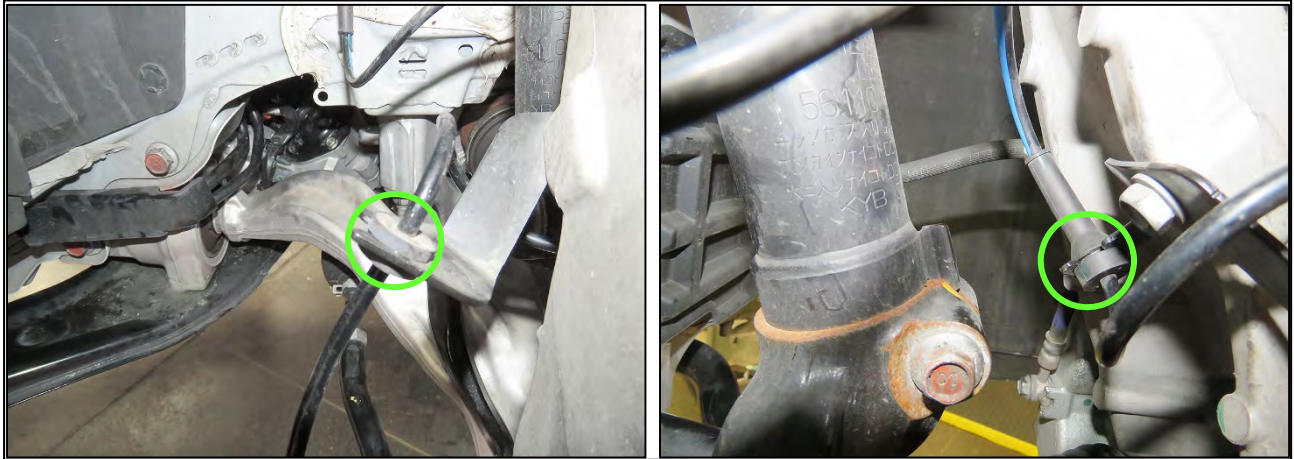

Figure 30
46. Detach the wheel sensor harnesses from the two (2) locations they are attached to on each steering knuckle bracket (Figure 30).